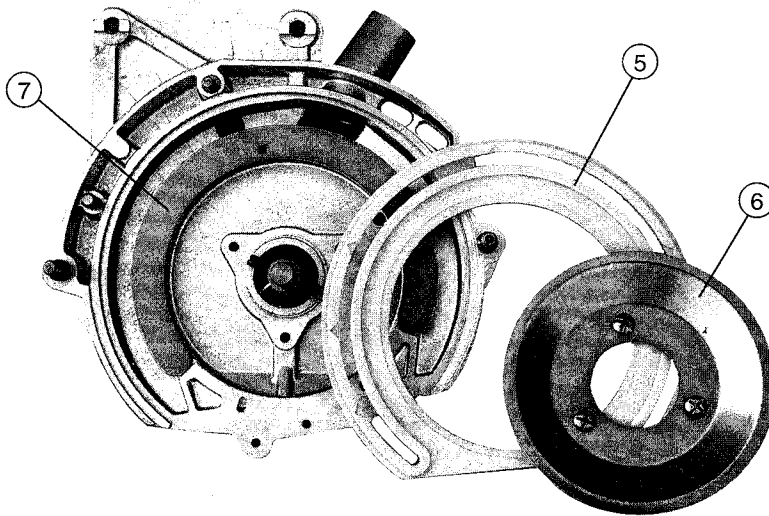

Fig. 33
The plastic wear gasket ⑤ on which the seed disc rotates should be smooth and in good condition. Under normal operating conditions, it should be replaced only after 1,250 to 2,500 acres (500 to 1,000 ha). The metal brace ⑦ should be positioned with its tab notched in the hole of the housing. The outer edge of the plastic wear gasket is then rotated into the groove, locking into place when the stub fits into the hole of the housing, and is then held in position by cap ⑥ and 3 bolts. (fig. 33)